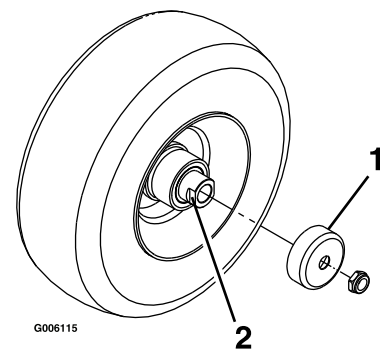

Figure 42
3. Remove the seal guards from the wheel hub (Figure 42).